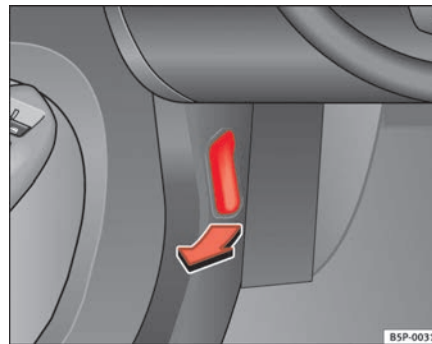

Fig. 141 Detail of foot-well area on driver's side: lever for unlocking the bonnet.
- To release the bonnet, pull the lever under the dashboard ⇒ **fig. 141** in the direction indicated (arrow). The bonnet will be released by a spring action ⇒ .